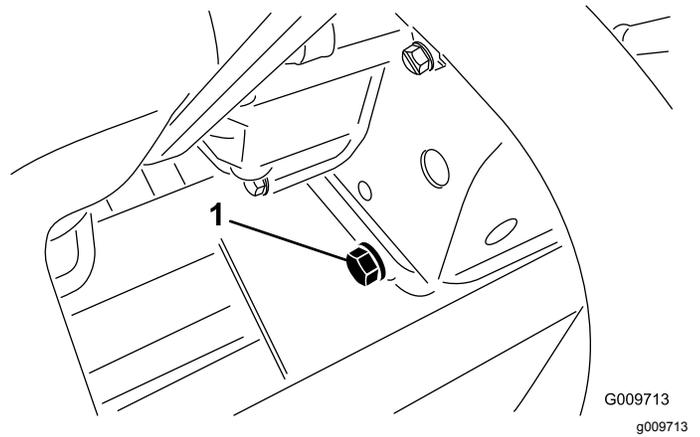

Figure 30
1. Remove the rear drain plug (Figure 30) and let the oil flow into a drain pan. When the oil stops, install the drain plug.